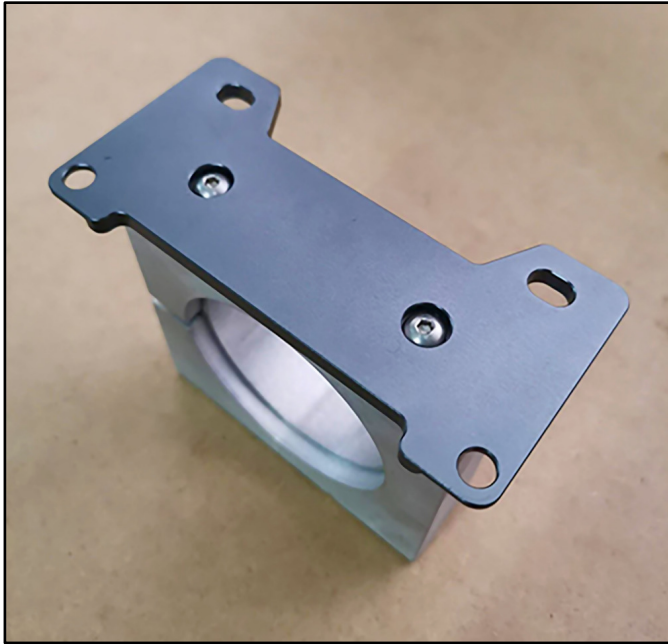
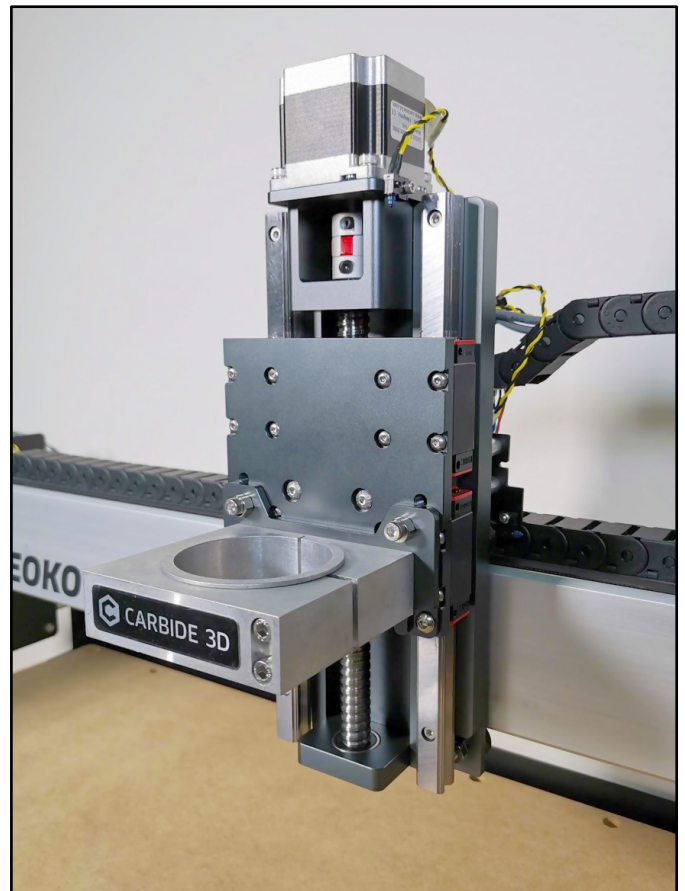

Figure 17
Figure 18
1. Fit your existing spindle mount to the EZTram mount using the existing M5 x 16mm screws. Ensure the recessed holes accommodate the screw heads and then tighten down the spindle mount. Feel free to use thread lock to secure the screws. See **Figure 17**.
2. Fit the two (2) eccentric spacers onto the two (2) M5 x 18 mm screws.
3. Place the EZTram mount on the lower front of the HDZ and thread the M5 x 18 screws and spacers through the top holes in the EZTram and into the HDZ. See **Figure 18**.
5. Fit the two (2) M5 x 10mm screws through the lower holes in the EZTram mount and finger tighten.